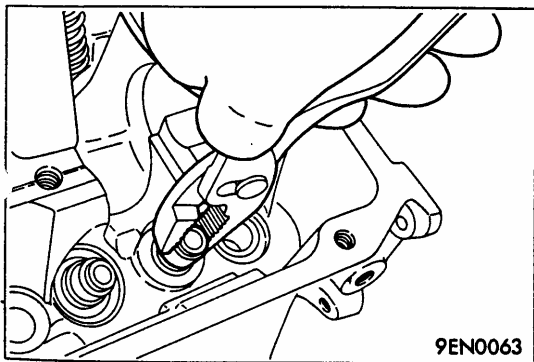

Fig.4-31
(3) THE REMOVAL STEPS OF VALVE STEM SEAL, see Fig.4-31